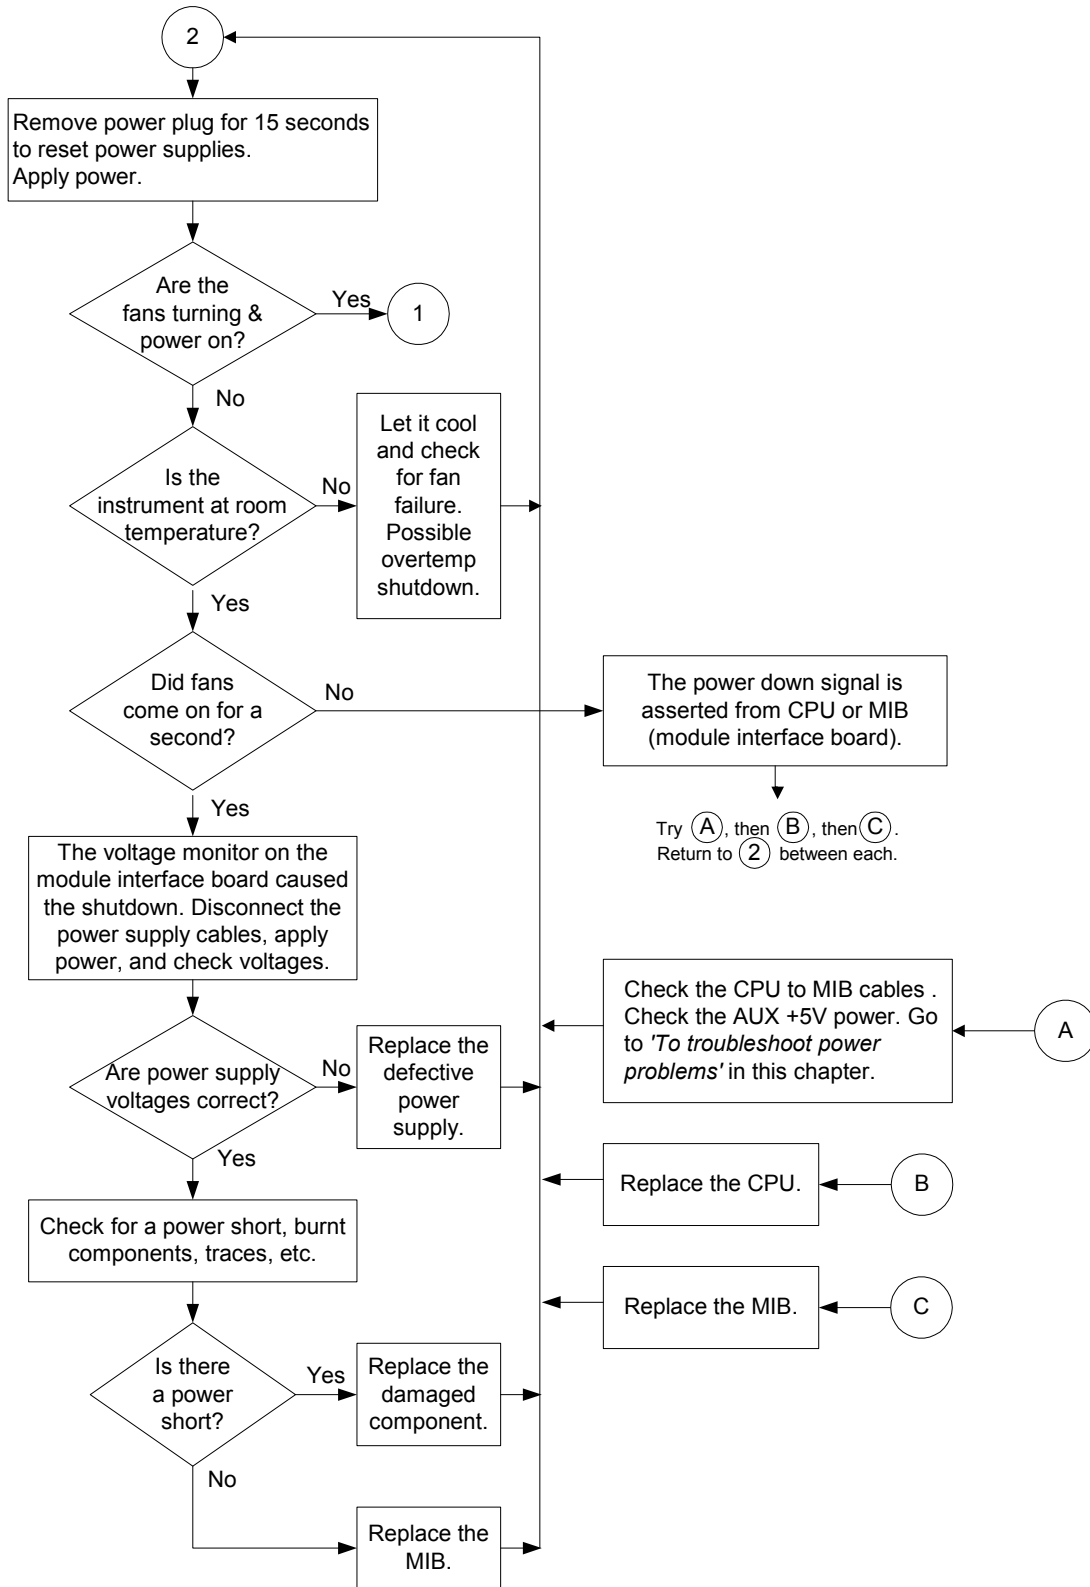

Figure 2 System Power Troubleshooting Flowchart
- 7 Referring to the graphics that follow, note problems with the power supply, then return to Figure 2, “System Power Troubleshooting Flowchart,” on page 72.